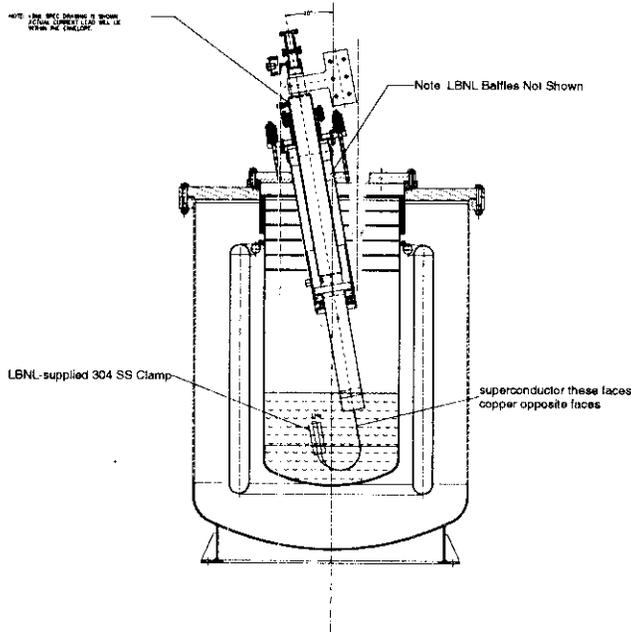

Figure 4.3a Side View of Lead in Cryostat with the LTS cables connected.
- 4.3** Make connection to LTS pigtailed. The joint is a mechanical connection with a stainless steel clamp block (supplied by LBNL) and indium foil between the cables to ensure good electrical contact. Torque each of the clamp block fasteners to 10 ft-lbf. Figure 4.3a shows a rendition of